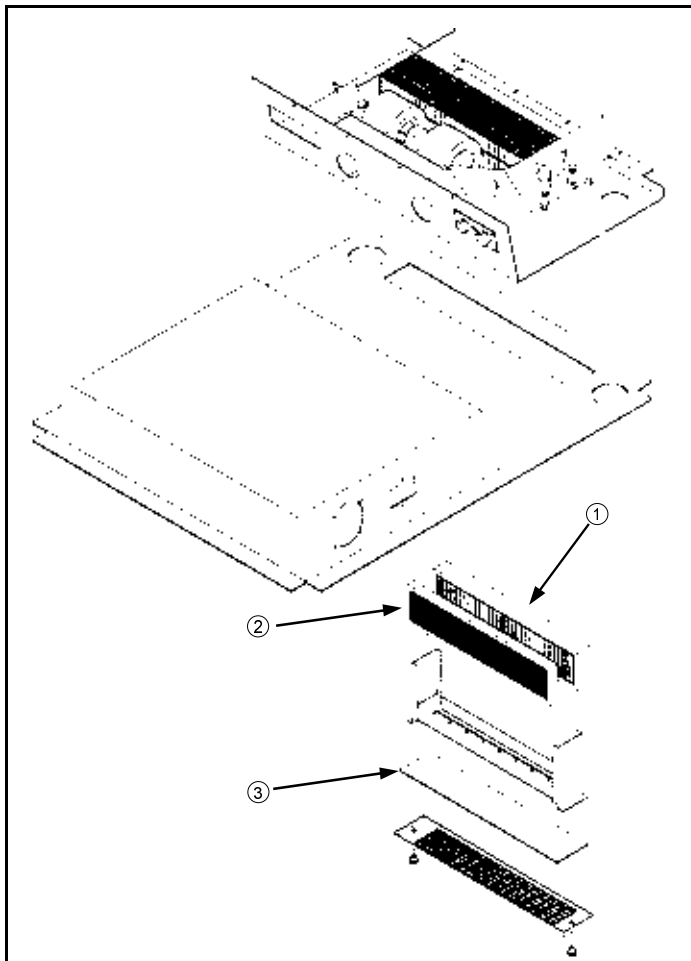

FIG 8.32
PAPER FILTER - (fig. 8.32, item 1) The paper filter should be cleaned once a year, or more often if necessary. Remove the paper element and gently tap it against a flat surface. Direct low pressure compressed air through the filter to remove larger particles. Replace the paper filter if necessary.
CHARCOAL FILTER - (fig. 8.32, item 2) Remove and replace at the first sign of chemical odor entering the cab.
RECIRCULATING FILTER - (fig. 8.32, item 3) The recirculating filter may be cleaned with soap and water. Replace if it becomes worn.